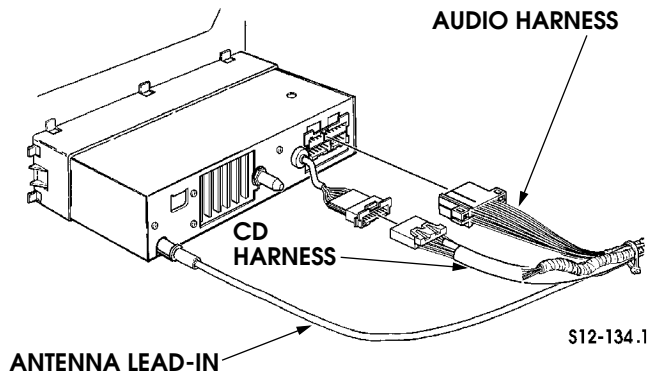

Figure 12-114.8: Audio Harness Connections.
2. Disconnect audio harness lead from harness connector (Figure 12-114.8).
7. Connect harness lead to audio harness connector (Figure 12-114.8).
2. Disconnect harness lead from audio harness connector (Figure 12-114.8).
2. Disconnect harness lead from radio head (Figure 12-114.8).